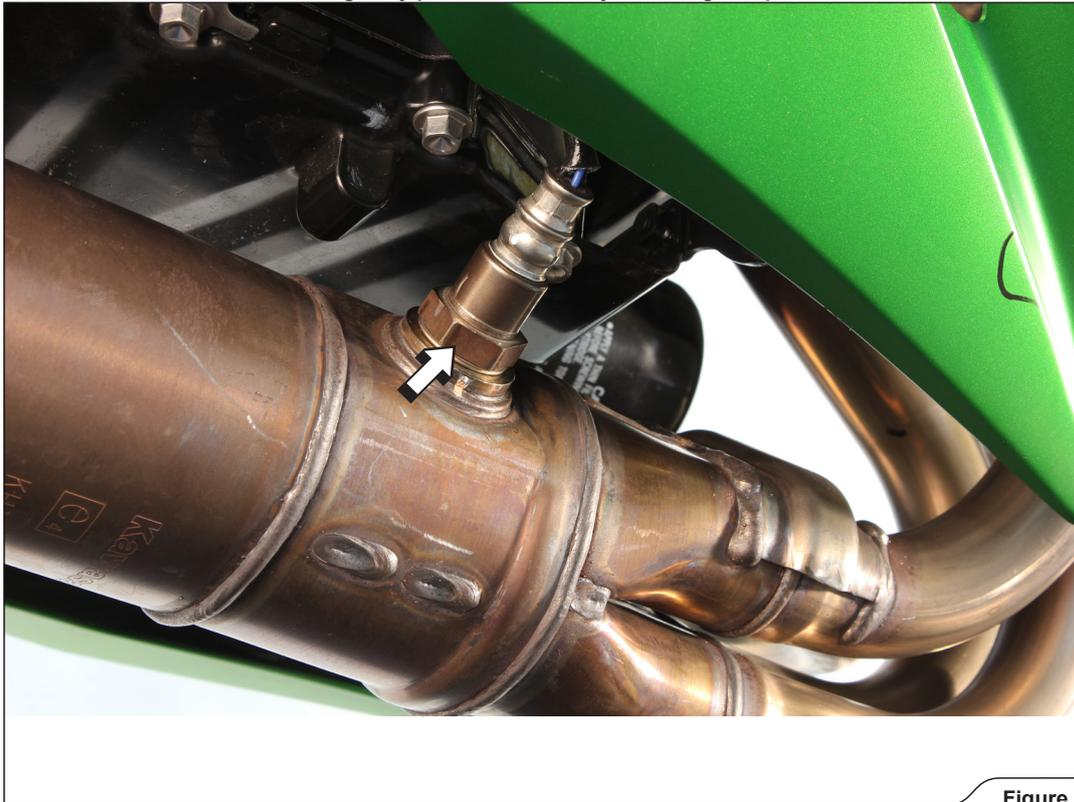

Figure 1
2. Unscrew the lambda sensor (Figure 1).